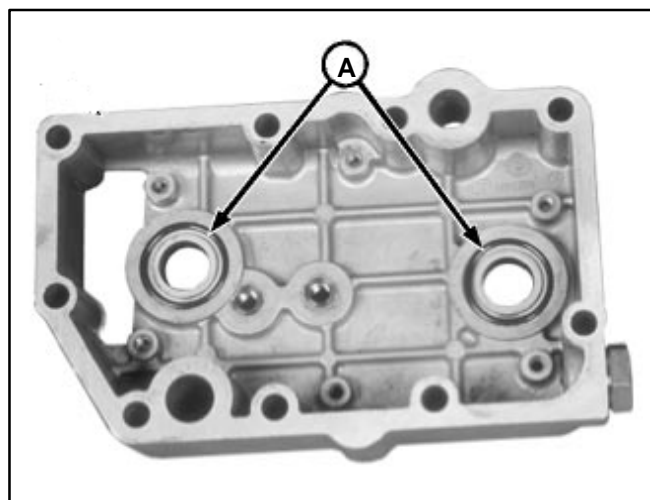

FIGURE 7-26. OIL COOLER HOUSING
9. Inspect the inside of the oil cooler housing (Figure 7-26). Remove the O-rings (A) and inspect the surface finish of the O-ring grooves. If ridges are discernible with a finger nail, replace the oil cooler housing. Do not attempt to repair the oil cooler or housing.